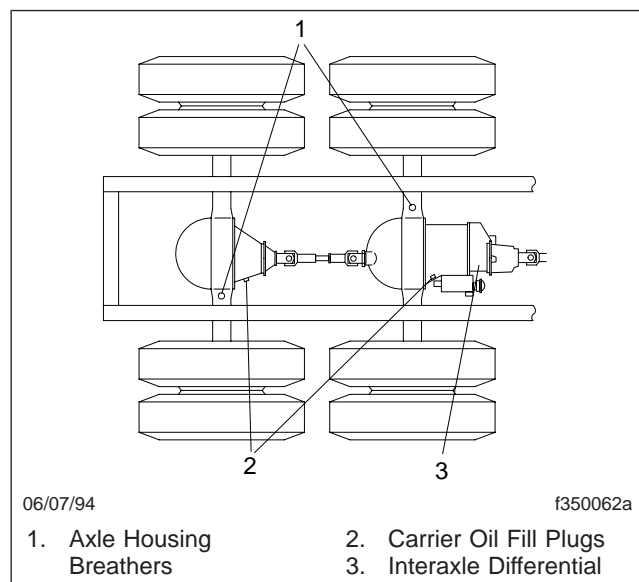

Fig. 1, Fill Hole Plug and Axle Housing Breather Locations
1. Clean the oil fill hole plug, located in the carrier or the side of the axle housing, and the area surrounding it (**Fig. 1**). Remove the plug.
When checking wheel nuts on a dual disc assembly, remove one outer nut at a time, tighten the inner nut, then reinstall the outer nut. Repeat this procedure for all of the inner wheel nuts in the sequence shown in Fig. 1, then tighten all of the outer wheel nuts in the same sequence.
See Table 1, Table 2, or Table 3 for wheel nut torque specifications, and see Fig. 1 for the tightening sequence.
- 3.2 Using soapy water, coat the service chamber clamp ring. Leakage is excessive if it produces a 1-inch (25-mm) bubble within 5 seconds. See Fig. 1. On Bendix service chambers, tighten the clamp ring enough to stop the leakage, but do not exceed the maximum torque limits in Table 2. *Do not overtighten.*
Do not loosen or remove the parking brake clamp ring (see Fig. 1) for any purpose at any time. The parking/emergency brake section is not intended to be serviced. Serious injury or death may result from sudden release of the power spring.